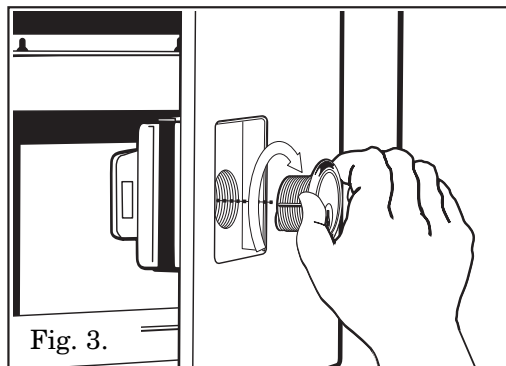

Fig. 3.
3. Carefully screw the mortise cylinder into the housing as shown in Fig. 3.